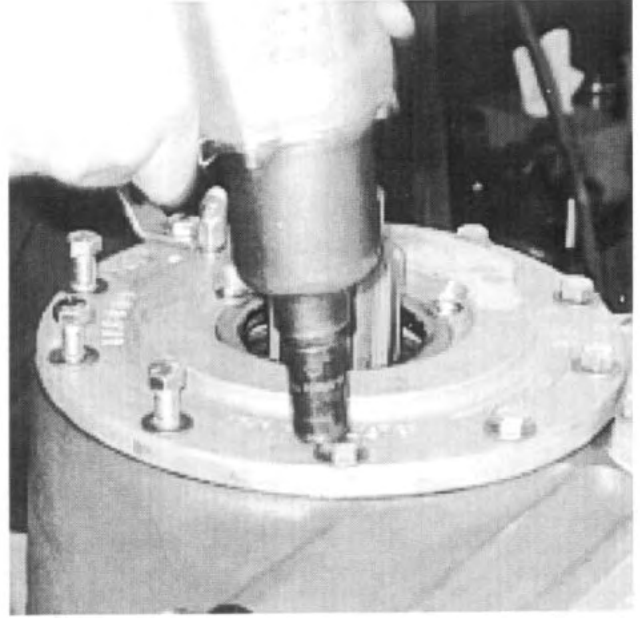

Fig. 22
22. Remove the ten (10) bolts securing the seal and bearing carrier of the upper input shaft. See Fig. 22.